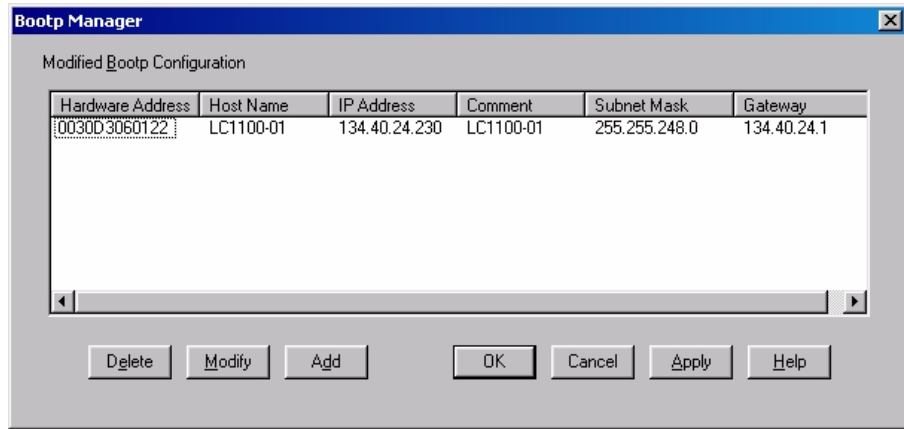

Figure 18 Bootp Manager
- 8 Select *Configure -> Bootp Manager*. All entries made above are shown in Figure 18 on page 27.